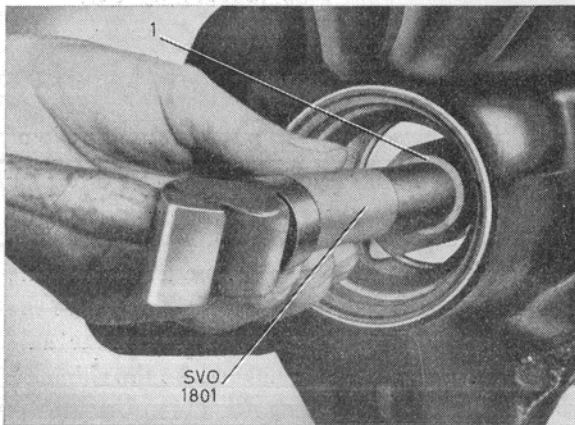

Fig. 25. Removing the bearing ring.
10. Drive out the bearing outer rings if required, see fig. 25. Use the standard handle SVO 1801 and the drift SVO 4064 for the forward ring and SVO 2207 for the rear ring. Be careful not to lose the shims (25) under the rear ring.